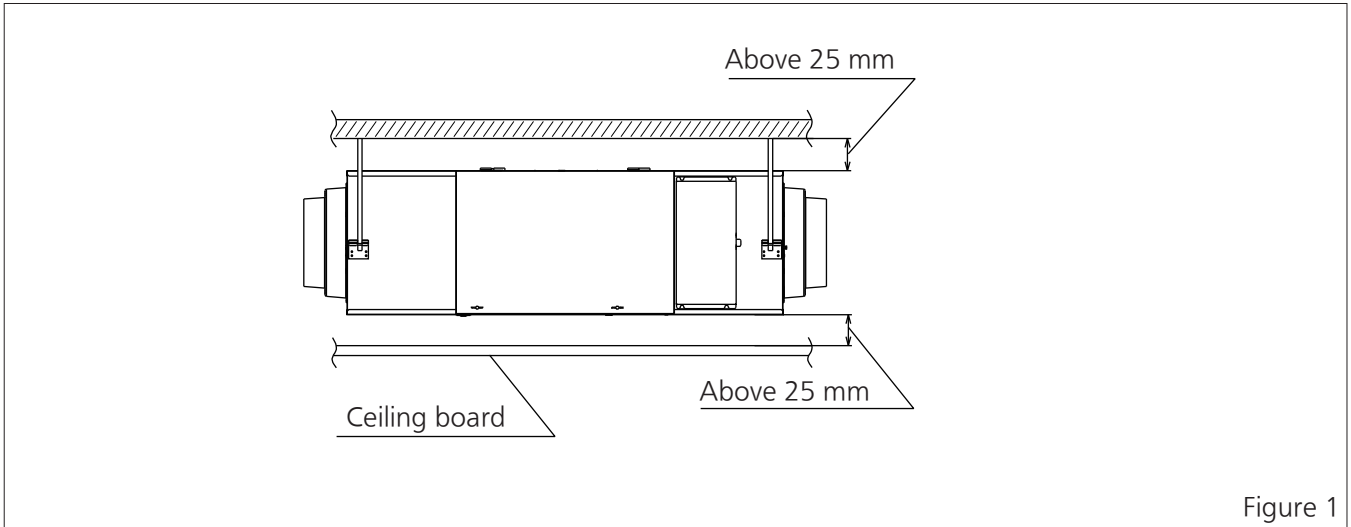

Figure 1
①Please ensure a safe distance (Figure 1)
- (1)Ensure the distance between the underside of the unit and ceiling board is over 25 mm.
- (2)Ensure the distance between the top of the unit and the mounting face of supports is over 25 mm.
① Installation diagram (Figure 1、Figure 2、Figure 3)
■ The exhaust air outlet (EA) is equipped with a backdraft damper. When the suspension direction is opposite to the direction shown in the following figure, please unfasten the screws and reinstall the air outlet until the arrow mark faces upward.
- ② Positioning and installation of supports (Figure 1)
- (1) Please set the supports according to the suspension brackets of the energy recovery ventilator. (site supplied: M10-M12)
- (2) Install the suspension brackets (4) of the energy recovery ventilator to the supports (site supplied).
- ①Strip the power cord. (Figure 1)